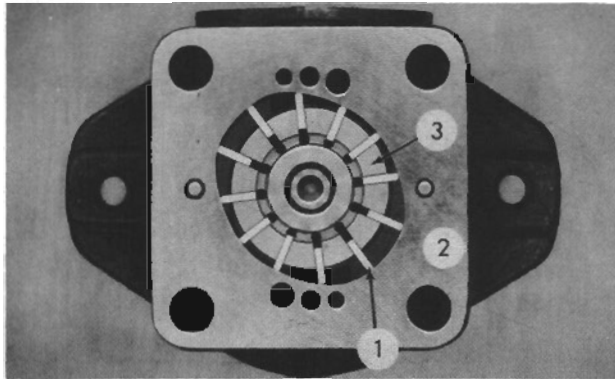

FIG. 44
plied to the pump from a reservoir. As the pump impeller rotates, the vanes (1, Fig. 44) in the hub (3) move outward due to centrifugal force and oil pressure directed on the inner ends of the vanes. This forces them to follow the inner surface of the cam ring (2). The oil enters the pump chamber through two ports. The ports are located in the pump cover on opposite sides of the chamber at the point where the pockets formed between the hub vanes and cam ring begin to increase in size. Two outlet ports are located in a pressure plate on the pressure side of the impeller at the point where vane pockets decrease in size. This increase and decrease in the size of the pockets between the vanes, hub, and cam ring provide the pumping action. Oil moved by the pump is carried to the power unit through flexible hoses.